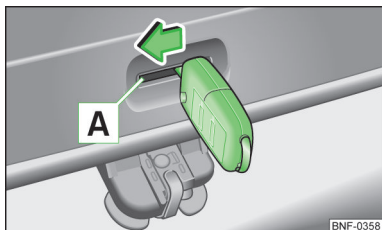

Fig. 121
- Insert the vehicle key into the slot **A** » Fig. 121 in the trim panel as far as it goes.